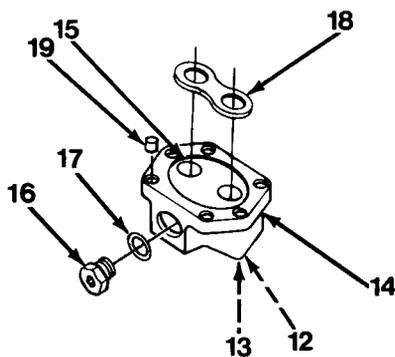
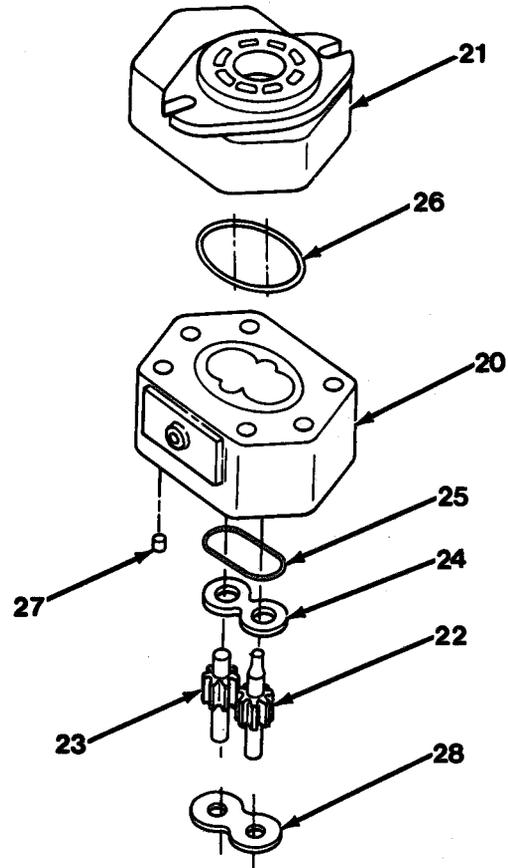

Figure 13-3
Figure 13-4
1. Remove four capscrews (12) and special washers (13) from rear cover (14, Figure 13-3).
2. Remove rear cover (14).
3. Remove square ring (15).
4. Remove socket head plug (16) from rear cover (14).
5. Remove C1-ring (17) from socket head plug (16).
6. Remove thrust plate (18) from rear cover (14). Note position of thrust plate (18) before removal.
7. Remove two dowel pins (19).
8. Separate rear body (20) from front body (21, Figure 13-4).